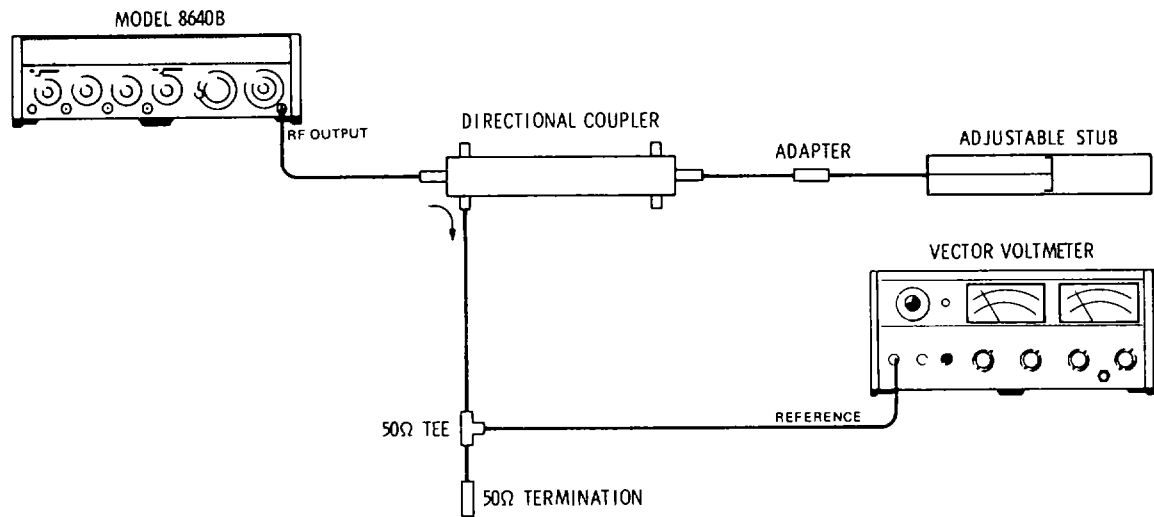

Figure 4-13. Output Impedance Test Setup (In Band).
- 1. Connect equipment as shown in Figure 4-13 after setting Signal Generator's controls as follows: